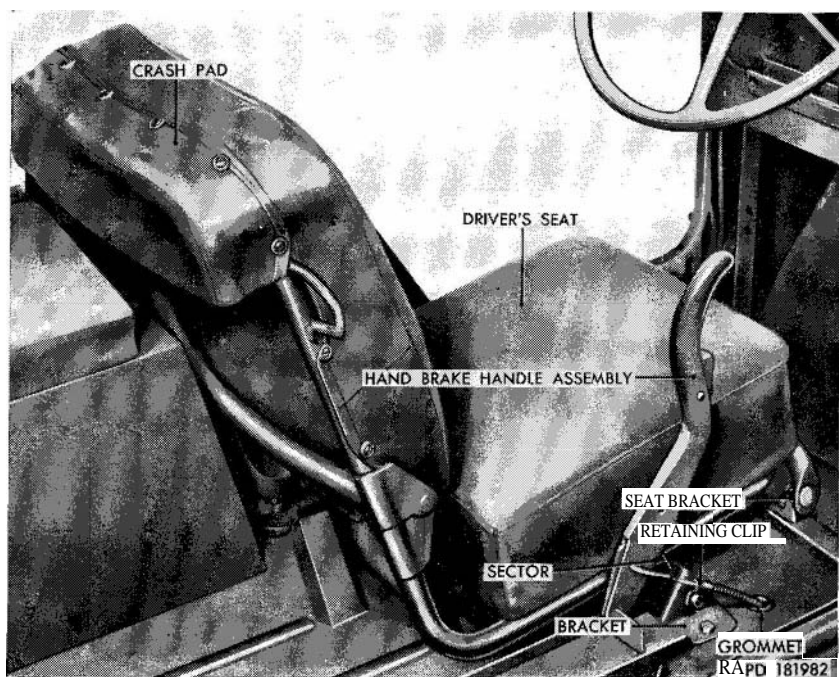
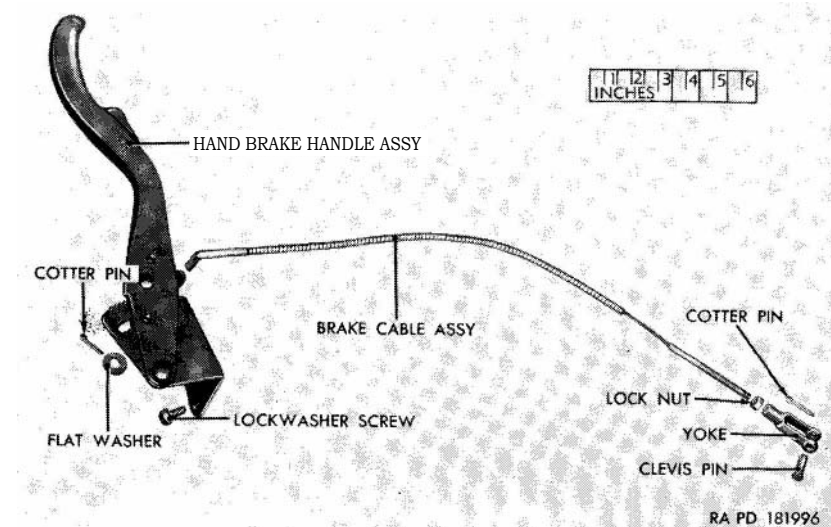

Figure 142.1. (Added) Hand Brake Handle and Driver's Seat Assemblies 1117 Installed.
Figure 143.1. (Added) Hand Brake Assembly M170—Partially Exploded View.
*c.* (Superseded) *Hand brake.* The mechanical hand brake system is independent of the hydraulic service brake system. The hand brake serves primarily as a parking brake but can also be used to slow or stop the vehicle should the service brakes fail. When the brake is applied, an inner and outer shoe (fig. 143.1) contacts a brake drum mounted on the transfer companion flange. Drag on the drum slows or prevents rotation of the flange and rear propeller shaft, to slow or stop the vehicle. The hand brake handle is at the right of the driver's seat as shown in figure 142 for the M38A1 and figure 142.1 for the M170. The hand brake handle of the M170 is mounted to avoid interference with a patient on the lower litter rack. Difference in linkage can be seen by comparing figures 143 and 143.1.
- (1) Remove cotter pin and flat washer from cable assembly end (fig. 143.1) in driver's compartment. Remove grommet (fig. 142.1) from floor pan. Remove lockwasher screw from cable housing retaining clip (fig. 142.1). Spread clip and remove from cable housing.
### b. Remove Hand Brake Handle Assembly (fig. 142.1).
- (1) *Brake cable assembly.* Loosen yoke lock nut (fig. 143.1). Unscrew the yoke from the cable assembly.
- (2) *Hand brake handle assembly.* Procedure for disassembly of the hand brake handle assembly M170 is the same as that for the M38A1 (par. 190d (2) ).
- (6.1) (Added) *Brake cable assembly M 170* (fig. 143.1). Replace a broken, frayed, or kinked brake cable assembly.
(7.1) (Added) *Cable adjusting yoke M170* (fig. 143.1). Replace a broken or otherwise damaged cable adjusting yoke.
b.1. (Added) *Assemble Brake Cable Assembly M170* (fig. 143.1). Install yoke lock nut on threaded end of cable.
c.1. (Added) *Install Hand Brake Handle Assembly M170* ( fig. 142.1). Position the sector of the brake handle assembly on the bracket on the floor pan cover. Install the three lockwasher screws securing the brake handle assembly to the bracket.
- (1) Push brake cable up through holes in floor pans (fig. 26.8) with the yoke end down. Install retaining clip on cable housing (fig. 142.1). Position clamp (fig. 26.8) at rear of transfer and install lockwasher screw. Install clevis pin in yoke and hand brake lever (fig. 26.8) and secure with cotter pin. Install the cotter pin (fig. 26.8) in the cable assembly. Connect. the tension spring to the skid plate and cotter pin in the cable. Install grommet in floor pan.
- (2) Insert the upper end of the brake cable assembly in the brake handle assembly and secure with a flat washer and cotter pin (fig. 142.1).
- (3) Insert a lockwasher screw (fig. 142.1) in the retaining clip and install the screw in the bracket.
a.1. (Added) *General M170.* The all steel, open-type body (fig. 158.1) of the ambulance is of seamed and welded construction. The body is equipped with a driver's seat (fig. 142.1), front passenger seat, and wheel house cushions (fig. 158.2), tool compartment, two medical supplies stowage compartments, battery stowage box, and bows for the installation of the top cover, side curtains, and doors. A well in front of the right wheel house provides for mounting the spare wheel and tire inside the body. A two-piece, folding-type windshield, with two windshield wiper vacuum motors, is secured to the body cowl. The formed sheetmetal hood and front fenders are removable. Access to the rear of the engine compartment, transmission, transfer, master cylinder and steering gear is provided by removable front floor pan covers and access plates. Reflex reflectors are bolted to the rear and sides of the body.
d. (Added) *Seat Assemblies M170.* The vehicle is equipped with a driver's seat, a front passenger seat (fig. 158.1), and four wheel house cushions (fig. 158.2) that serve as seats for rear passengers. The rear of the driver's seat is equipped with the driver's seat frame crash pad and cover (fig. 142.1).